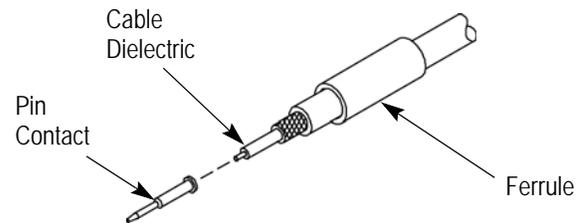

Figure 4
3. Slide the pin contact onto the cable center conductor until the contact butts against the cable dielectric. Refer to Figure 4. Crimp the contact. Check the crimp to make sure that there is no gap between the contact and the cable dielectric.